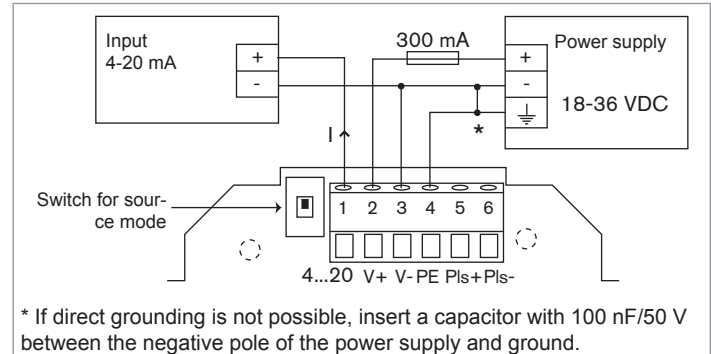
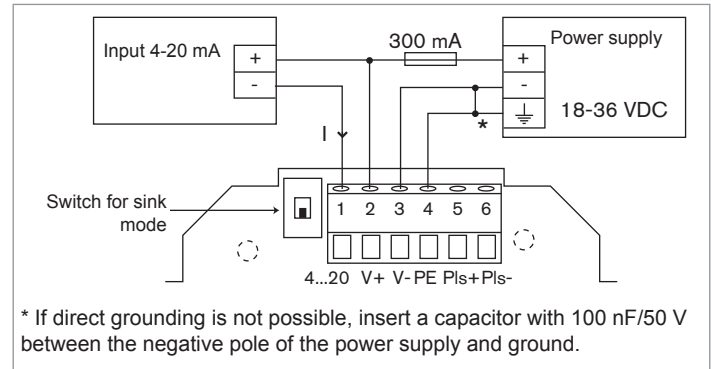

Figure 14: Connection of the current output in source mode
Figure 15: Connection of the current output in sink mode
- Move the switch of the terminal box to the position for source mode or sink mode (see Figure 14 or Figure 15).
- Connect the 4-20 mA current output in source mode (see Figure 14) or sink mode (see Figure 15).
- Make the grounding (see Figure 14 or Figure 15).